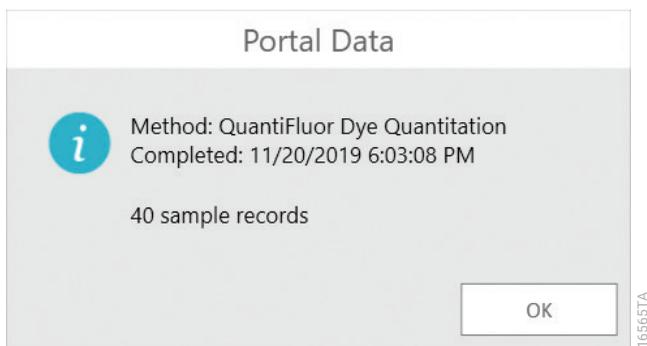

Figure 44. ‘Portal Data’ summary screen. The ‘Portal Data’ screen presents a summary of the data that was retrieved from the Portal software.
6. If the search is successful, a ‘Portal Data’ summary screen is shown indicating the method that was used to create the plate map, the date on which the method was completed and the number of samples on the plate (Figure 44). Tap the **OK** button to dismiss the ‘Portal Data’ screen